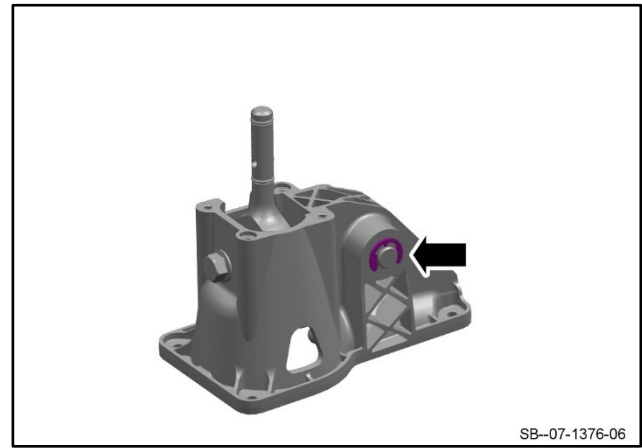

Figure 5
6. Remove the circlip (refer to Figure 5).